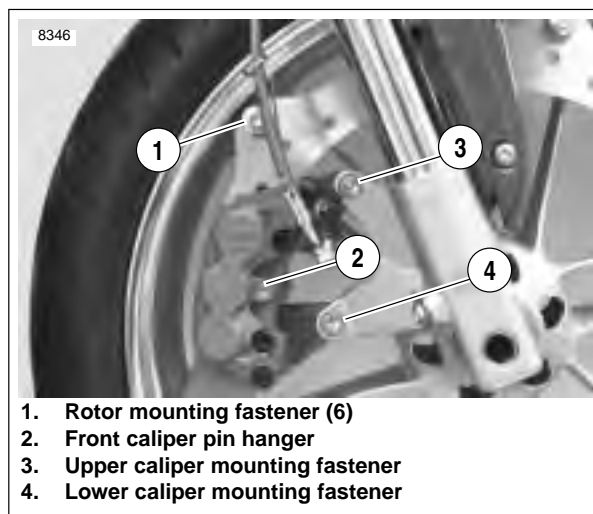

Figure 1-15. Front Brake Caliper
1. See Figure 1-15. Loosen pin hanger (2) but do not remove.
2. Rotate wheel so that caliper is centered between rotor mounting fasteners (1).
3. Remove lower caliper mounting fastener (4) that secures caliper to fork lower.
4. Loosen but do not remove upper caliper mounting fastener (3) that secures caliper to fork lower.
5. Remove pin hanger (2).
4. See Figure 1-15. Install pin hanger (2) making sure it engages hole on both pads and spring clip.
6. See Figure 1-15. Install lower caliper mounting fastener (4).
8. Tighten pin (2) to 11-14 ft-lbs (15-19 Nm).